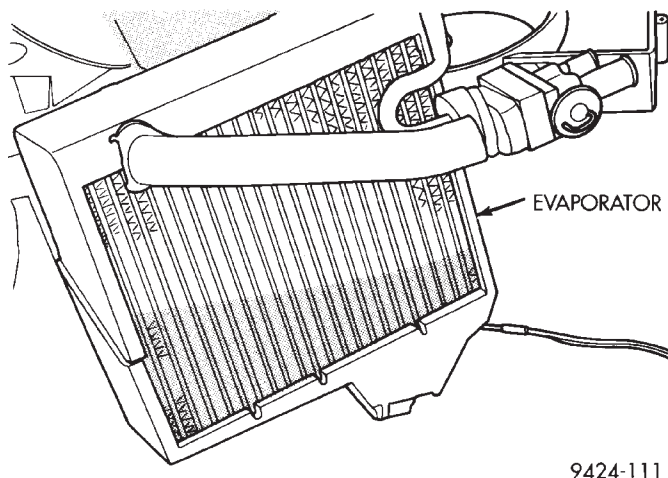

Fig. 43 Evaporator
- (7) Lift evaporator out of lower housing (Fig. 43).
- (8) Transfer evaporator probe. Place the evaporator probe in the same location as on the previous evaporator.